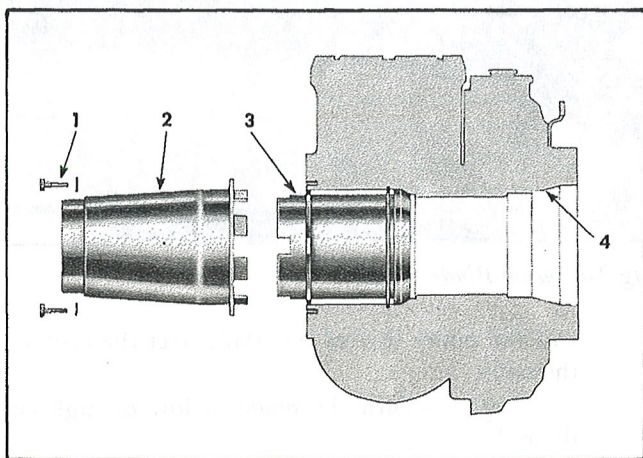

Figure 224—Locking of Propeller Shaft Nut, A632S-C4
a. The removal and installation of the model A632S-C4 propeller is accomplished in exactly the same manner as discussed in Section III of this manual with one exception. This is the use of a *shaft nut* with an integral extension that replaces the shaft nut locking sleeve used in previous propellers. For comparison purposes, see Figure 19 of the manual (T.O. 03-20E-2) and Figure 224 in this supplement.